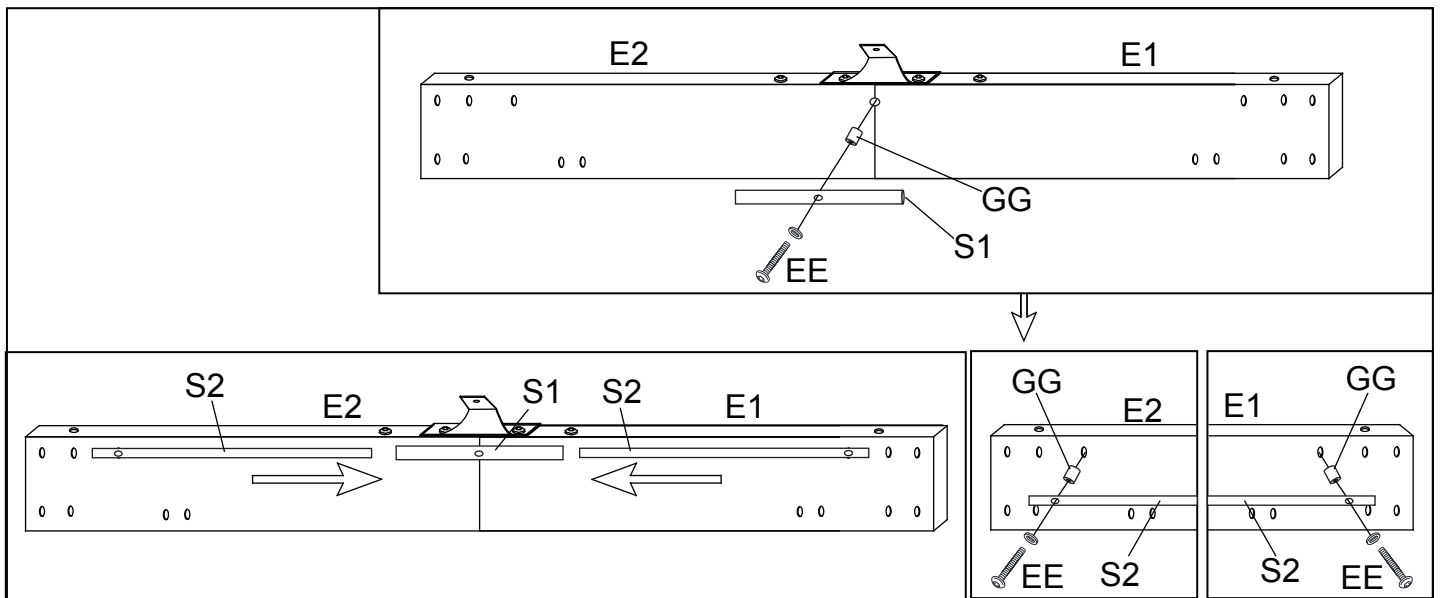

Fig.3
3. Attach the Connector (S1) through the Spacer Block (GG) to the Lintels (E1/E2) and fix them by using the Bolt (EE). Then insert one end of the Mosquito net rod (S2) into the Connector (S1), Attach the other end to the Lintels (E1/E2) through the Spacer Block (GG), and fix them by using the Bolt (EE). See Fig.3.